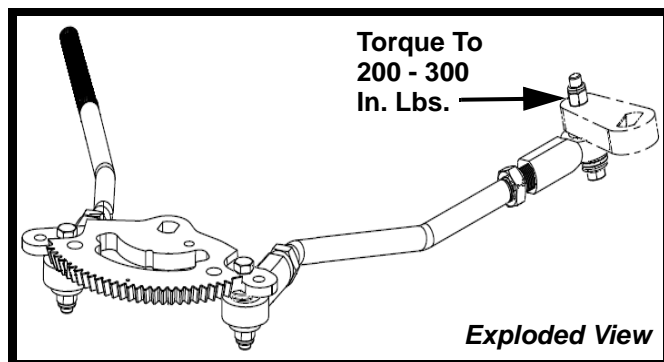

FIGURE 14
41. Torque item #10 (712-3061) 3/8-24 nylon lock hex nut located on the left and right hand steering arms to 200-300 in. lbs. See Figure 14.